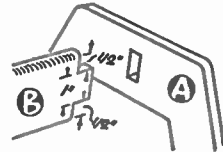

Fig. 4
The front view and end view in Fig. 3 show the position of the trays in relation to the ends (A). Measurements are given on the front view. This diagram also shows the handle (B) which is cut from 1/4in. wood. It is tenoned at both ends and fits into a mortise in each piece (A). A detail of this is shown in Fig. 4. The edges are rounded off to provide an easy grip for the hands.
Fig. 4 shows the type of sail used as main, fore and mizzen on the fore and